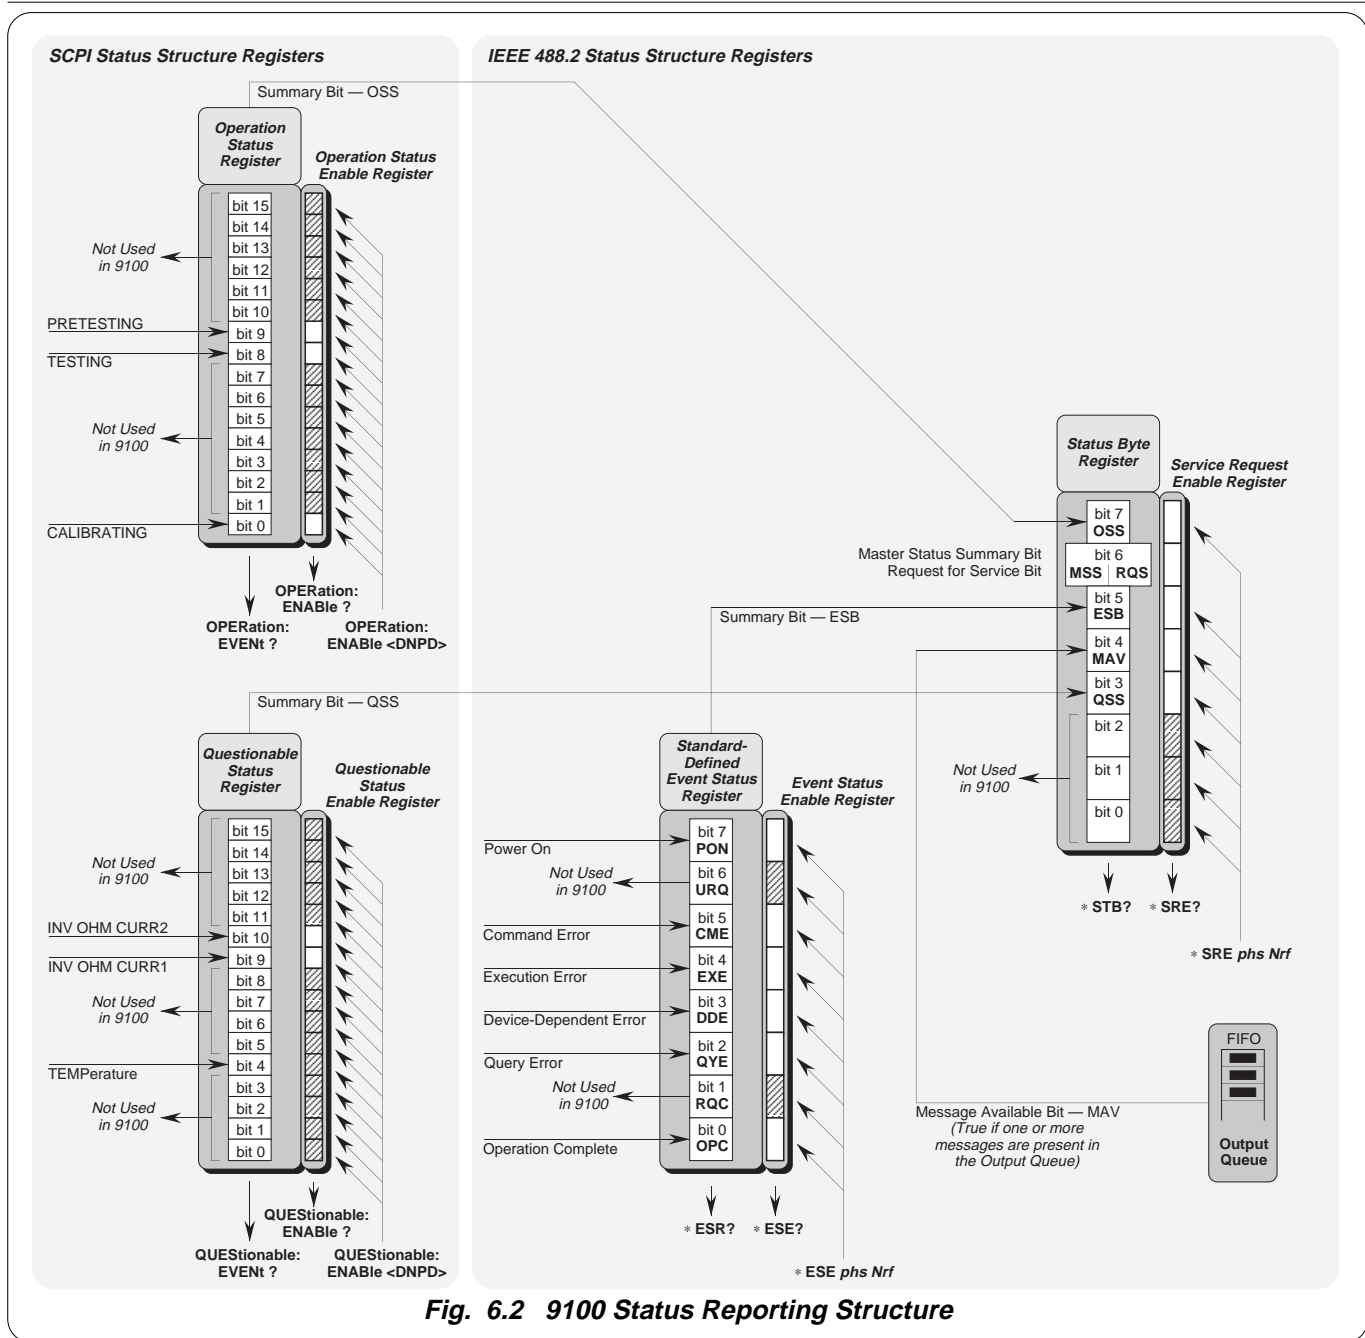

Fig. 6.2 9100 Status Reporting Structure
6.5.2 IEEE-488 and SCPI Standard-Defined Features (Fig. 6.2)
The Status Byte consists of four 'summary' bits which notify events in the 8-bit latched IEEE-488.2-defined 'Event Status Register' (ESB), the two 16-bit latched SCPI-defined registers (OSS & QSS), and the Output Queue (MAV). Whenever one of these summary bits is enabled and set *true*, the Status Byte summary bit (MSS) is also set *true*. The buffered bit 'RQS' follows *true* when MSS goes true, and will set the IEEE-488 SRQ line *true* (Note that in Fig 6.2 no arrow points at bit 6 of the Service Request Enable Register — bit 6 is always enabled).
Referring to Fig. 6.2, take as an example the main Event Status register:
This develops the IEEE 488.1 model into an extended structure with more definite rules. These rules invoke the use of standard ‘Common’ messages and provide for device-dependent messages. A feature of the structure is the use of ‘Event’ registers, each with its own enabling register as shown in *Fig. 6.2*.